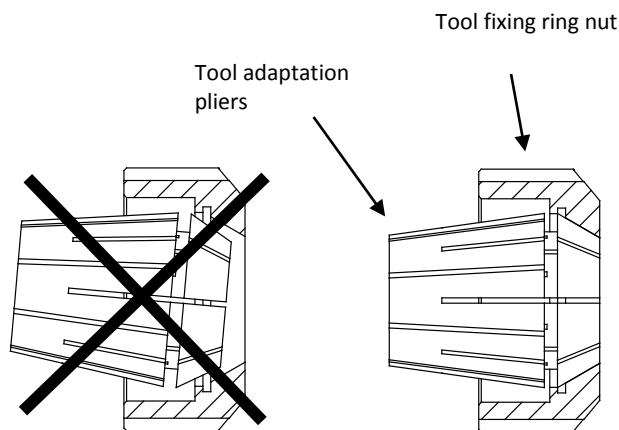

Fig. 55
- Apply pressure to insert the *tool adaptation pliers* in the *tool fixing ring nut* (Fig. 55).